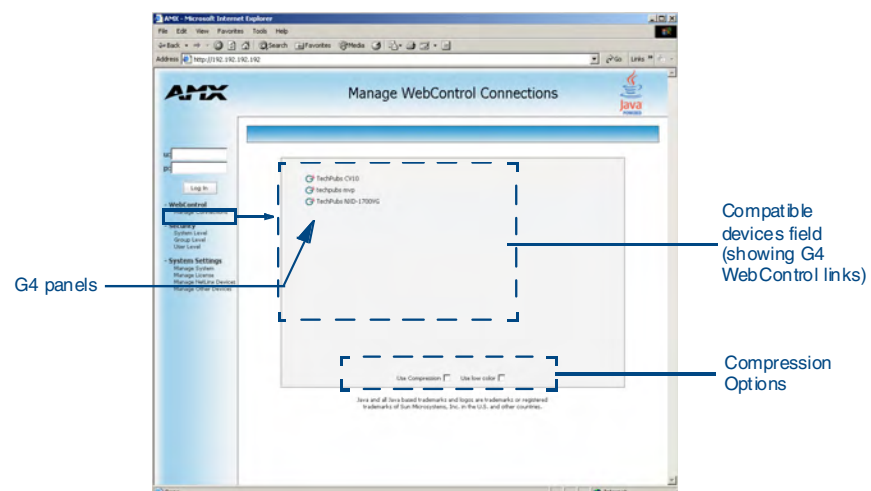

FIG. 46 Manage WebControl Connections page (populated with compatible panels)
4. Click **OK** to enter the information and proceed to the Master's *Manage WebControl Connections* window. This page (FIG. 46) is accessed by clicking on the **Manage connections** link (*within the Web Control section within the Navigation frame*). Once activated, this page displays links to G4 panels running the latest G4 Web Control feature that were previously set up and activated on the device.